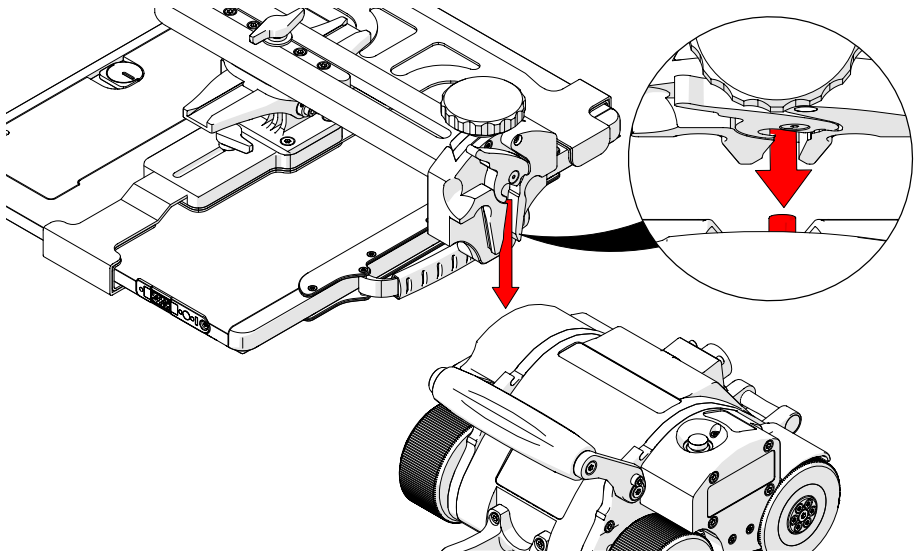

Fig. 33 - Align detector bracket groove with crawler's dowel
2. Align the groove of the detector bracket with the dowel of the **SKOOT•X** crawler (Fig. 33).